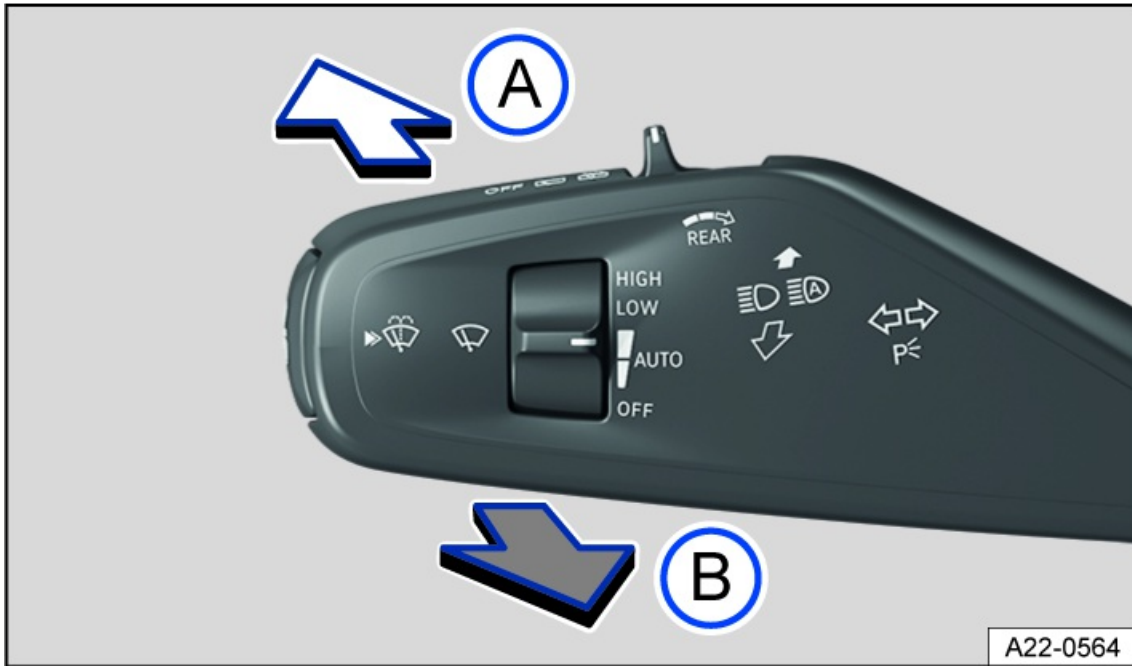

Fig. 71 On the left-hand side of the steering column: lever for turn signal, high beam and windshield wiper.
3. Push the lever forwards out of the center position *fig. 71*.
1. Pull the lever backwards out of the center position *fig. 71*.
1. Pull the lever backwards out of the center position and hold it in place *fig. 71*.